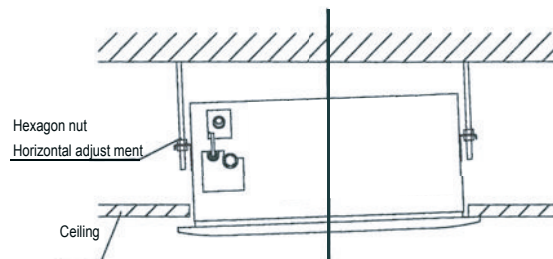

Fig.5-32
- If the gap between the panel and ceiling still exists after fastening the screws, the height of the indoor unit should be modified again. (Refer to Fig.5-32-left)
- You can modify the height of the indoor unit through the openings on the panel's four corners, if the lift of the indoor unit and the drainpipe is not influenced (Refer to Fig.5-32-right).